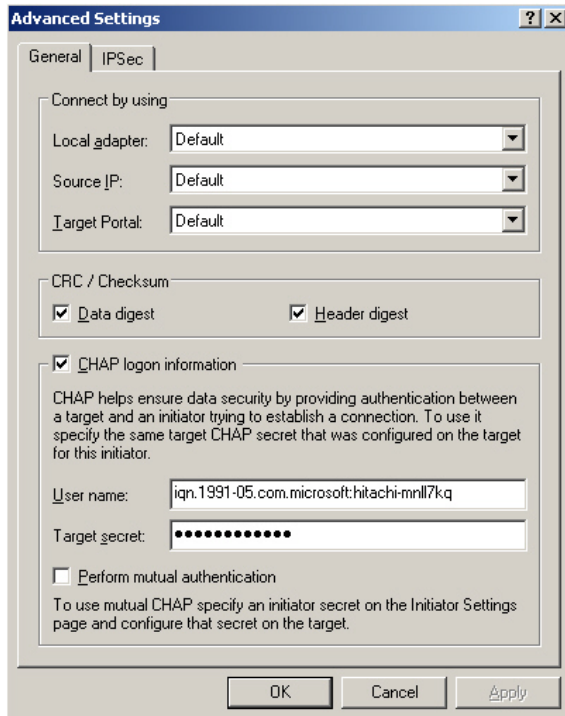

Figure A.15 Advanced Settings, Target Secret
17. If the CHAP authentication will be performed at login from this initiator, click CHAP Logon Information. Then enter the username and target secret in the appropriate fields (see Figure A.15). The length of the secret key must be from 12 (96 bits) to 16 characters.